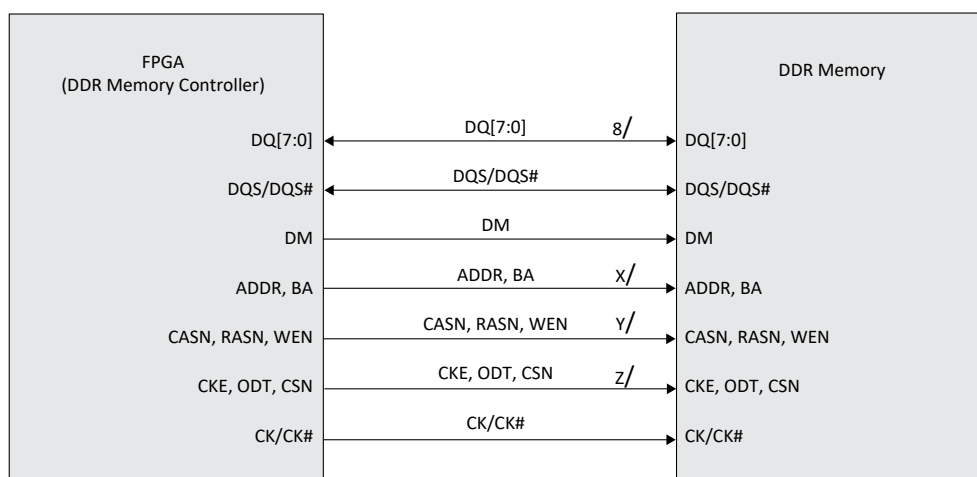

Figure 6.1. Typical DDR2/DDR3/DDR3L Memory Interface
Figure 6.1 shows typical DDR memory signals. DDR2, DDR3, and DDR3L memory interfaces are typically implemented with either four or eight DQ data bits per DQS. So, a 16-bit DDR memory interface uses two or four DQS signals, and each DQS is associated with four or eight DQ bits, respectively. Both the DQ and DQS are bi-directional ports and are used to read and write to the memory. LPDDR2 and LPDDR3 memory are the same but only supports 8 DQ data bits per DQS strobe.
DDR memories also require a Data Mask (DM) signal to mask data bits during write cycles. Note that the ratio of DQS to data bits is independent of the overall width of the memory. Figure 6.1 shows a typical 8-bit interface that has eight associated DQ data bits per DQS strobe signal.